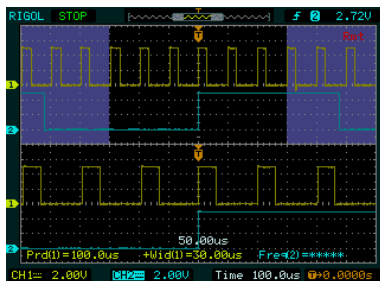

**Figure 60. 1KHz Trigger**
12. Set the FG RANGE to 1K and adjust the FG FINE FREQUENCY to obtain a clock signal of 1KHz. Note: If the frequency of the clock is greater than 1KHz you will not be able to obtain the waveforms as shown in Figure 60.
14. Verify that the rising edge of the FG clock (CH2) triggers the PG output (CH1) as shown in Figure 60. When using the TRIG input of the PG each rising edge of the trigger signal will cause the PG to begin its timing cycle based on the period and width range settings.